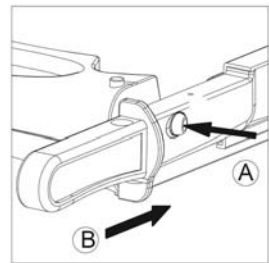

Fig. 3
- 6 After completing the work, press the locking button and push the handle back in (Fig. 3).